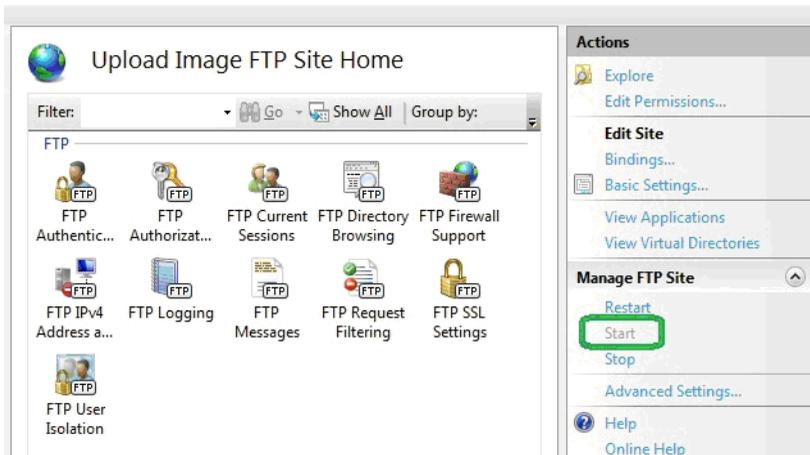

FIGURE 2-45 IIS Manager - FTP Server Running
Step 1 Make sure the FTP server is running. Click **Start** in IIS if it is not, as shown in FIGURE 2-45.